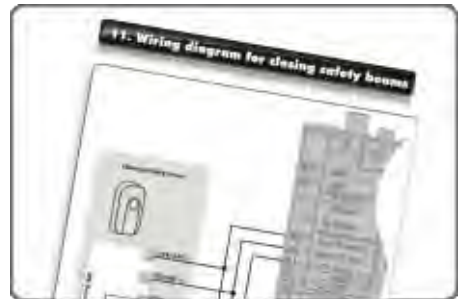

FIGURE 32
2. Mount the origin marker to the rack a minimum of 500mm from the origin sensor. Refer to Figure 32, isometric view A or plan view B.
3. Mount the origin marker onto the rack using the bracket provided referring to Figure 32 if mounting onto steel rack or Figure 33 if onto nylon angle rack.